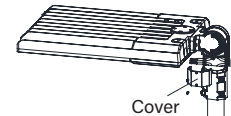

Figure 6
2. Loosen the four bolts on the slipfitter cover, connect the wires to source power, and push them into the tenon. (Figure 6)
3. Place the slipfitter onto the tenon and tighten bolts. (Figure 6)